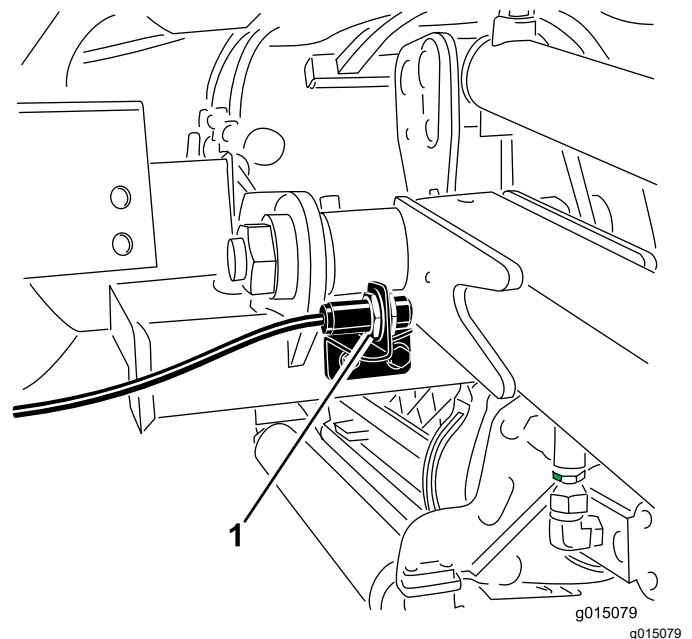

**Figure 60**
2. Insert a tube or similar object onto the long spring end to relieve the spring tension during the adjustment (Figure 60).
3. While relieving the spring tension, remove the bolt and locknut securing the spring actuator to the bracket (Figure 60).